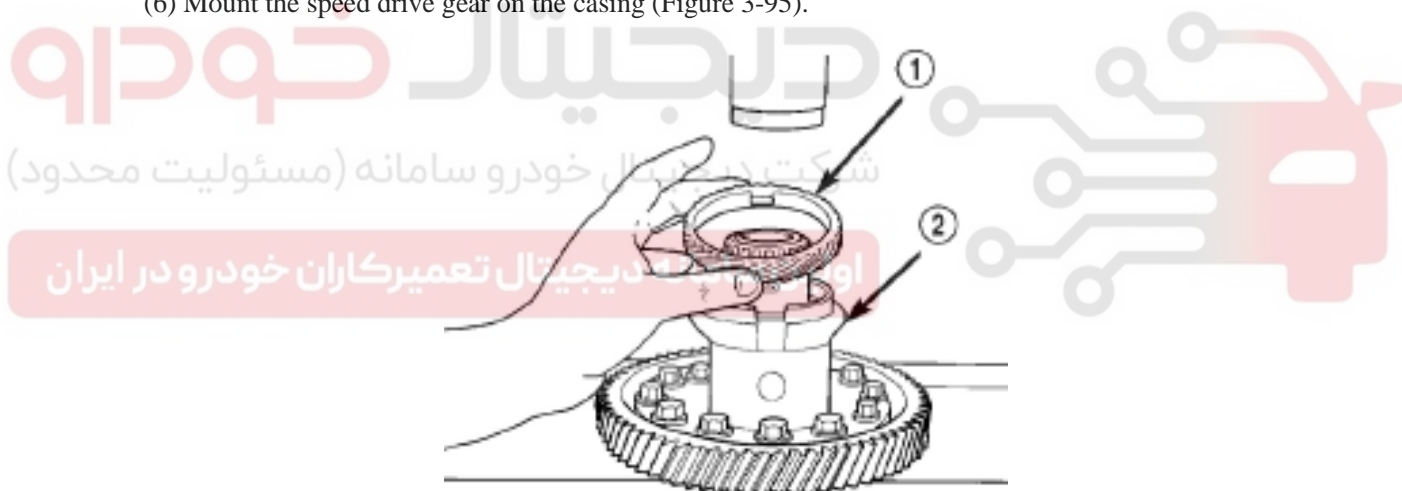

Figure 3-95 Speed meter drive gear
(6) Mount the speed drive gear on the casing (Figure 3-95).